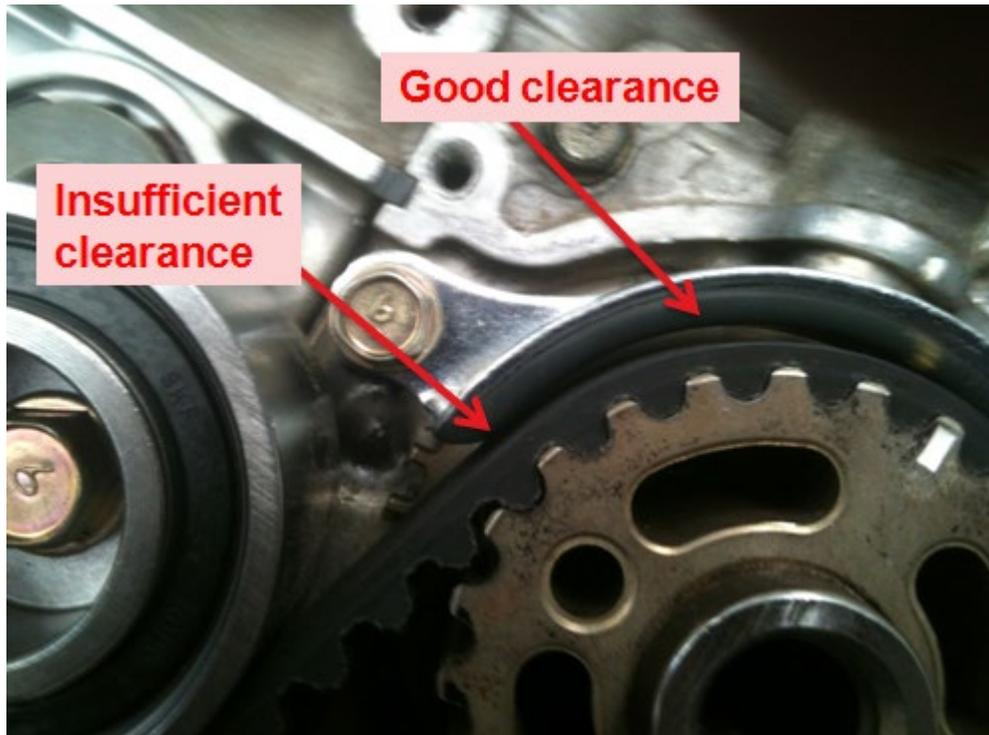

Fig. 3
- As such, while there may be adequate clearance in one section of the guide plate, a fitter **MUST** ensure that the same applies to the other section. As pictured, the top of the guide has clearance however the left side doesn't (Fig 3.).